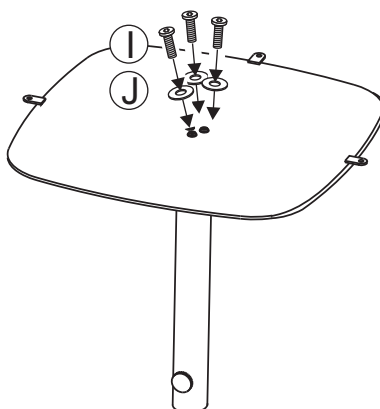

Figure 3
- 3 Attach the umbrella base pole to the bottom panel by using three 1/4"x25 mm bolts and washers as shown in **Figure 3**. Guide these bolts through the holes in the bottom panel, into the pre-drilled holes in the umbrella base pole. **Hand tighten only 2-3 turns.**